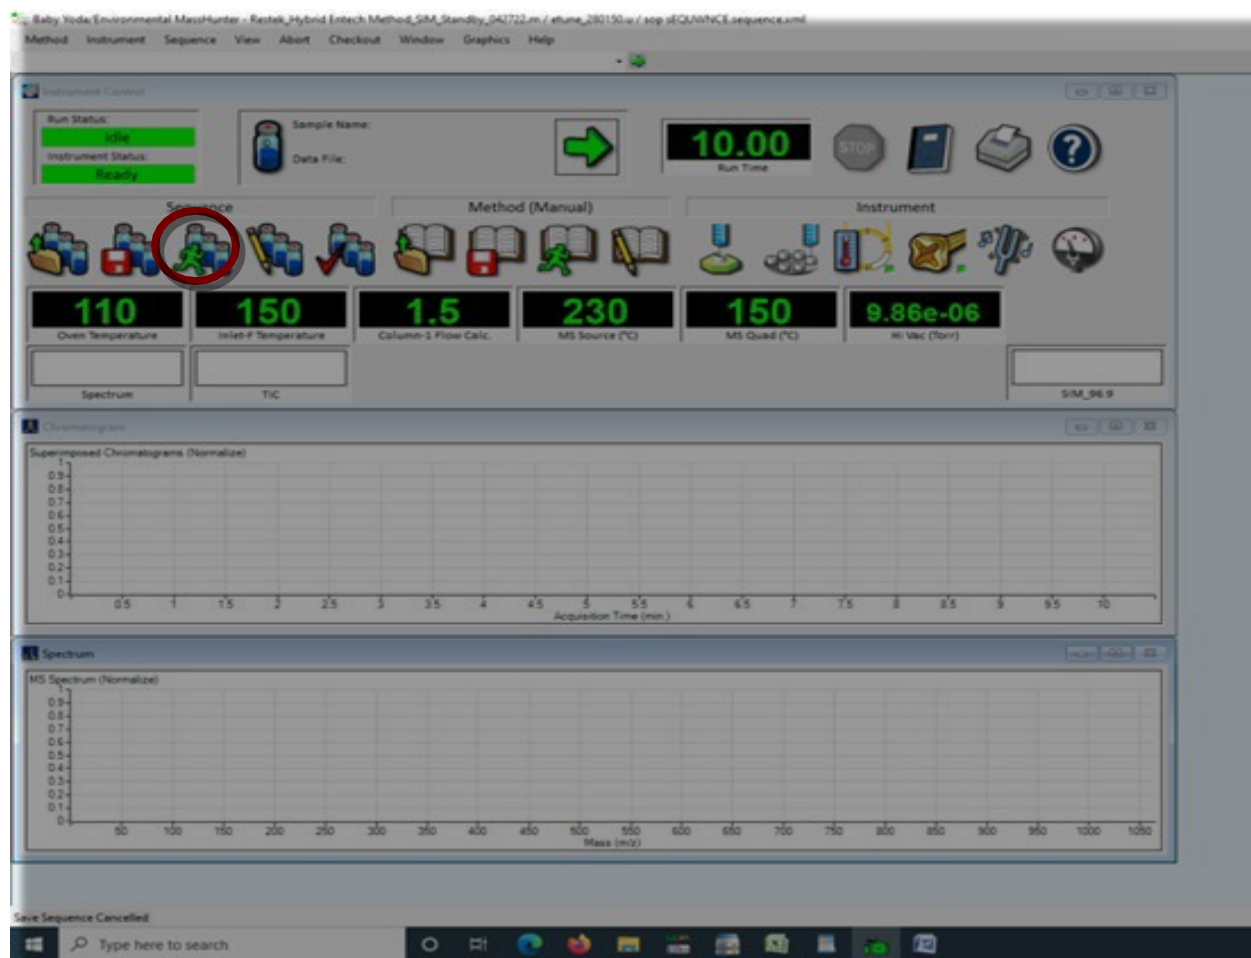

Figure 30. Initiating the analysis sequence on the GC-MSD.
1. To run the GC-MSD sequence created in the previous section, click the **Run Sequence** button on the toolbar (Figure 30).